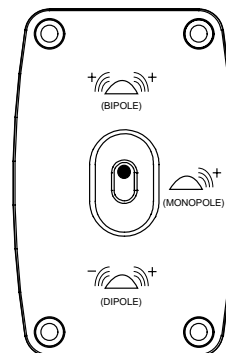

Figure 6. Surround mode configuration switch.
When used as a rear channel speaker in a 6- or 7-channel system, it is recommended that the Surround Mode Configuration Switch be set to Bipole, as shown in Figure 6.
6. Set the mode configuration switch to the Bipole position (Fig. 6).